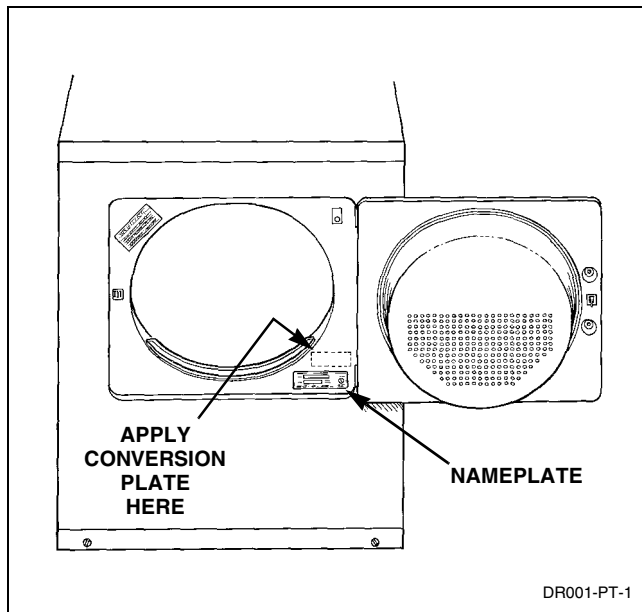

Figure 45
- j. Apply the No. 60513 Conversion Plate to the inside of the loading door opening above the nameplate. Refer to *Figure 45*.
- Apply the No. 60512 Conversion Plate to the inside of the loading door opening above the nameplate. Refer to *Figure 45*.